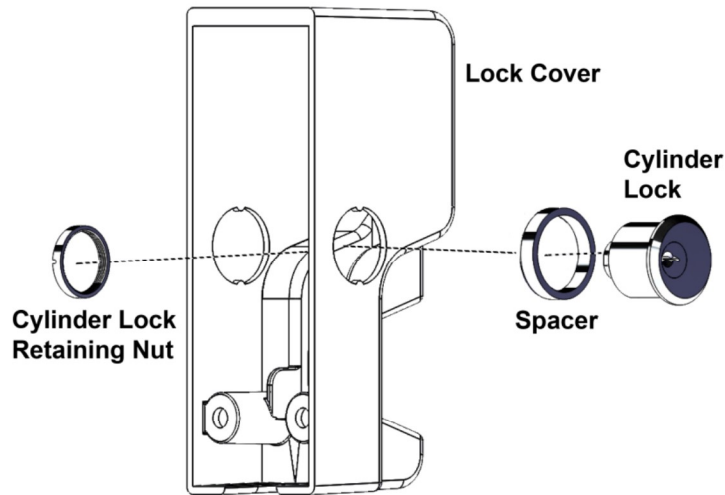

Figure 5. Cylinder Lock Installation
- b. INSERT the cylinder lock with applicable spacer (i.e., Sargent Number 90) into the applicable cover hole (see table below and Figure 5, "Cylinder Lock Installation").